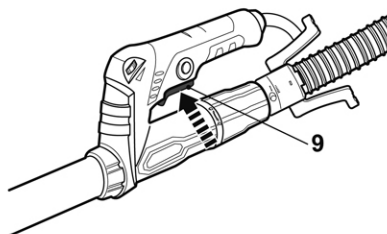

Fig.13
1. Switch the product on by squeezing the on/off switch (9) (Fig. 13).
2. Switch the product off by releasing the on/off switch (9).